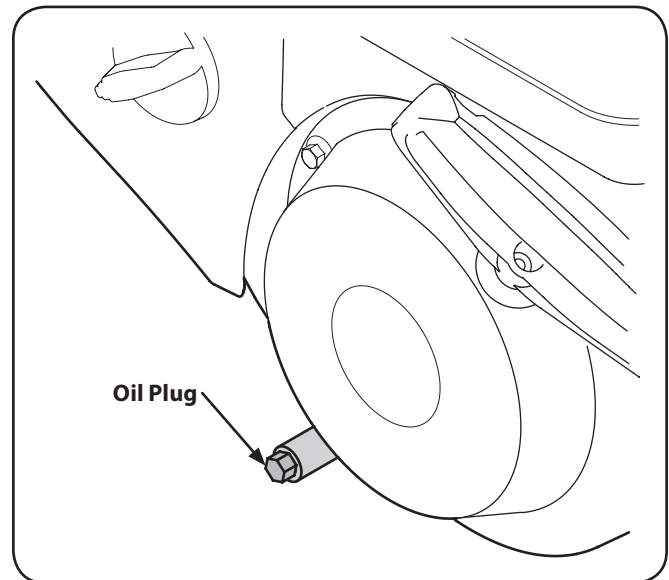

Figure 7-2
2. Remove the oil drain plug, Figure 7-2.